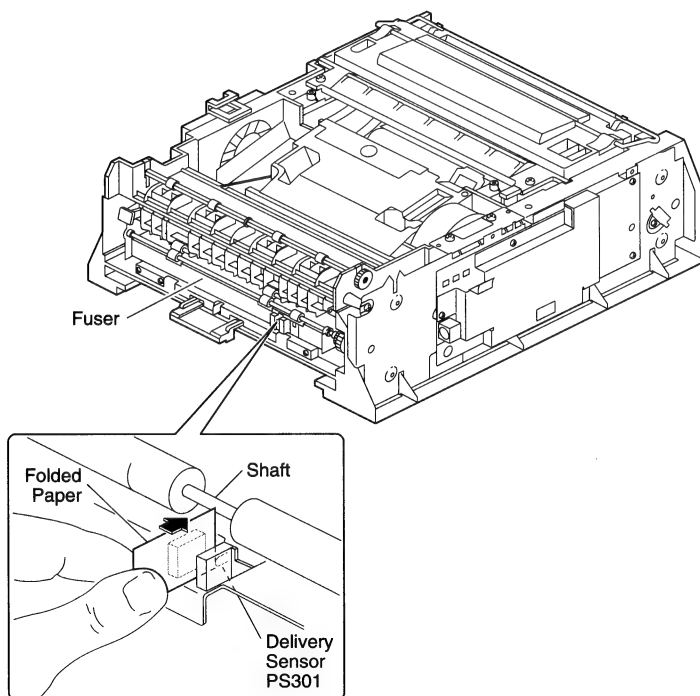

Figure 8 Defeating the Paper Delivery Sensor
4. Defeat the paper delivery sensor, PS301, with a piece of folded paper, as shown in Figure 8. Insert the paper only until it touches the metal shaft of the fuser. If you insert the paper too far, the sensor remains open and the printer determines that a paper jam exists.